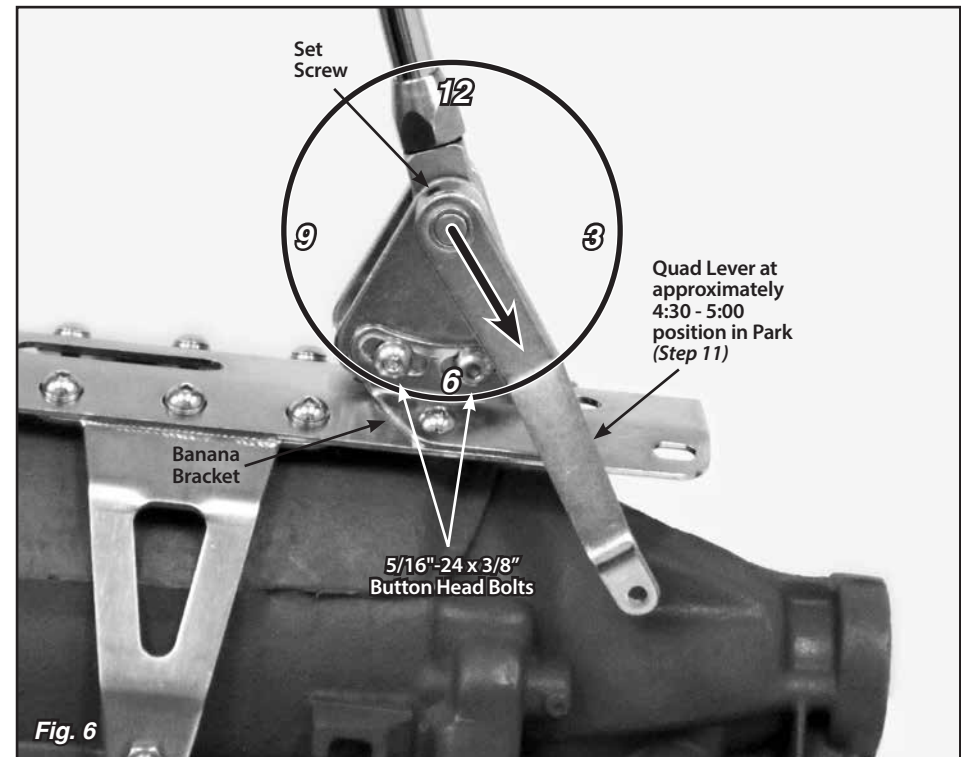

Fig. 6
Double check to make sure that the bolts connecting the **left** side banana bracket to the shifter assembly are tight. **Fig. 6**
Step 10: Make sure the two 5/16"-24 x 3/8" button head bolts that attach the left side banana bracket to the shifter assembly (in the curved, slotted holes) are tight. Before tightening the shifter assembly down to the main plate, move the shifter lever through all the gear positions. Make sure that the shifter lever and knob do not come in contact with the dash or the seat. The shifter assembly can be tilted forward or backward if needed by loosening the 5/16"-24 x 3/8" button head bolts in the curved, slotted holes in the left side banana bracket. **Fig. 6**
Step 11: Put the shifter lever into the Park position and check the position of the quad lever. It will need to be pointing to about the 4:30 position. If it is not, loosen the set screw in the top of the quad lever with a 1/8" Allen wrench and slide the quad lever off of the shaft. Reposition it on the shaft at approximately the 4:30 - 5:00 position, and retighten the set screw. **Fig. 6**